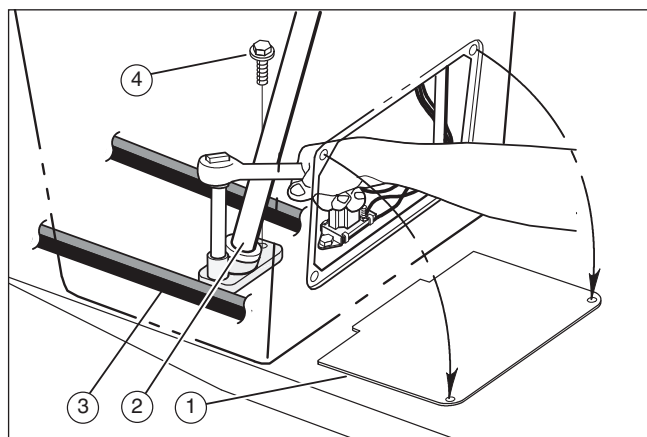

Figure 4
NOTE: Before attachment of the steering wheel, make sure that the front wheels point forward and are straight. See **Figure 4** for proper alignment of the steering wheel (1).